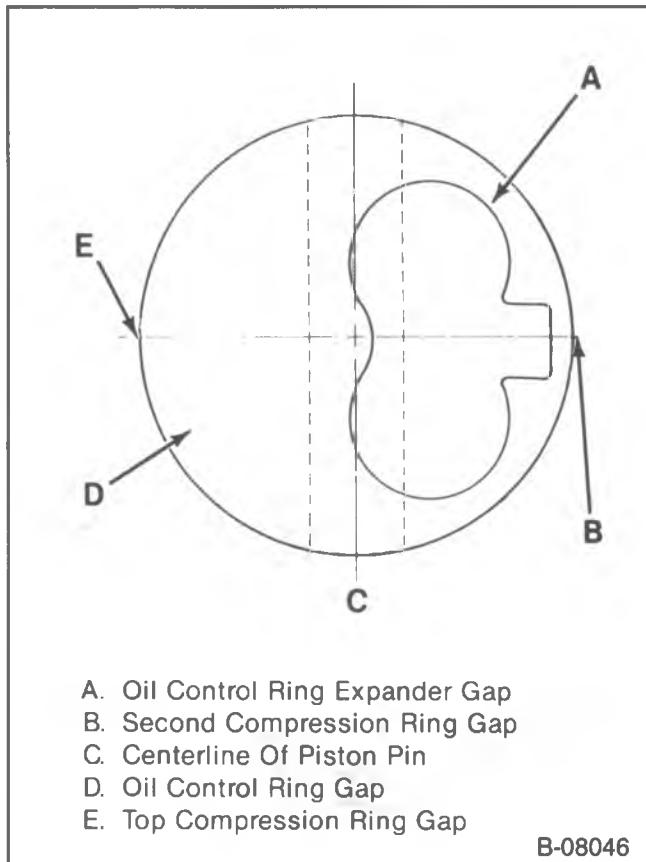

Figure 36—Ring Gap Location
→ Install or Connect (Figures 36, 37, and 38)
- Locate the piston ring end gaps as shown in figure 36. Lubricate the piston and rings with engine oil.